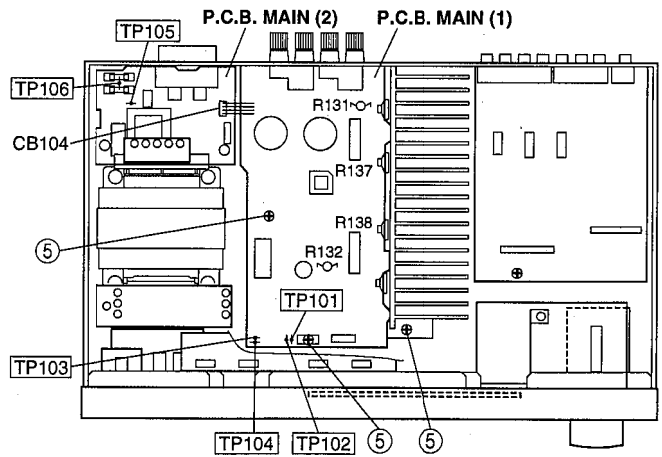

Fig. 3
- Remove 3 screws (⑤) fixing the Main Unit in Fig. 3.
- Detach connector terminal (CB104) in Fig. 3.
- Operating checks can be taken by shorting between following test points in Fig. 3.